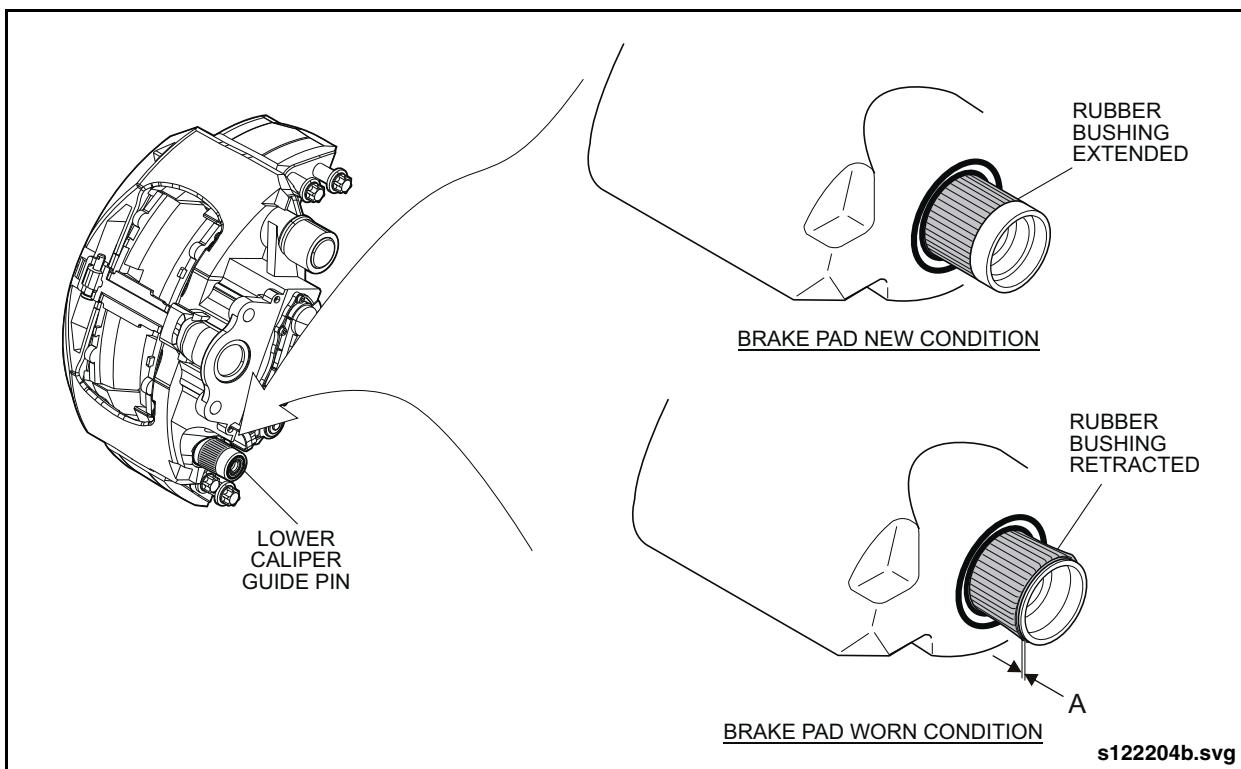

Fig. 1-47: Brake Pad Wear Inspection
2. Inspect the amount of deformation on the bellows area of the rubber bushing. A fully extended bellows indicates a new brake pad condition. A retracted and bulged bellows (where Dim A \leq 1mm) indicates a worn brake pad condition. See "Fig. 1-47: Brake Pad Wear Inspection" on page 53.